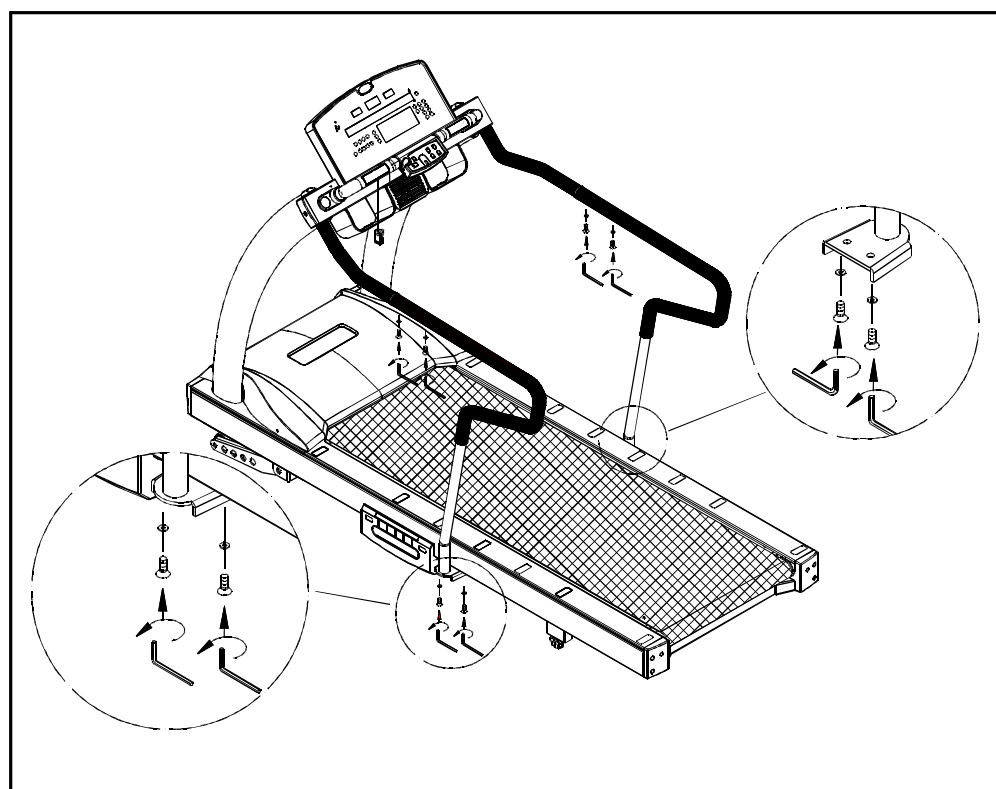

Fig.16
- (3) Assemble the left and right long rails. Tighten the upper then lower fasteners. (see Fig.16)